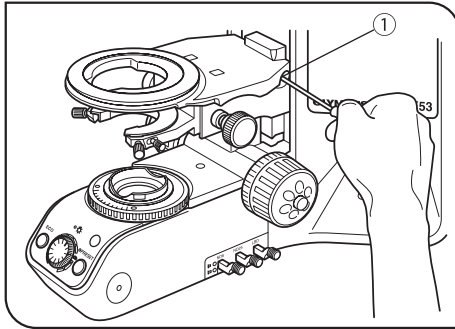

Fig. 15
**4 Stage Height Adjustment (Figs. 15 & 16)**
2. Using the Allen screwdriver, loosen the substage bracket clamping screw ① and remove the substage assembly. (Fig. 15)